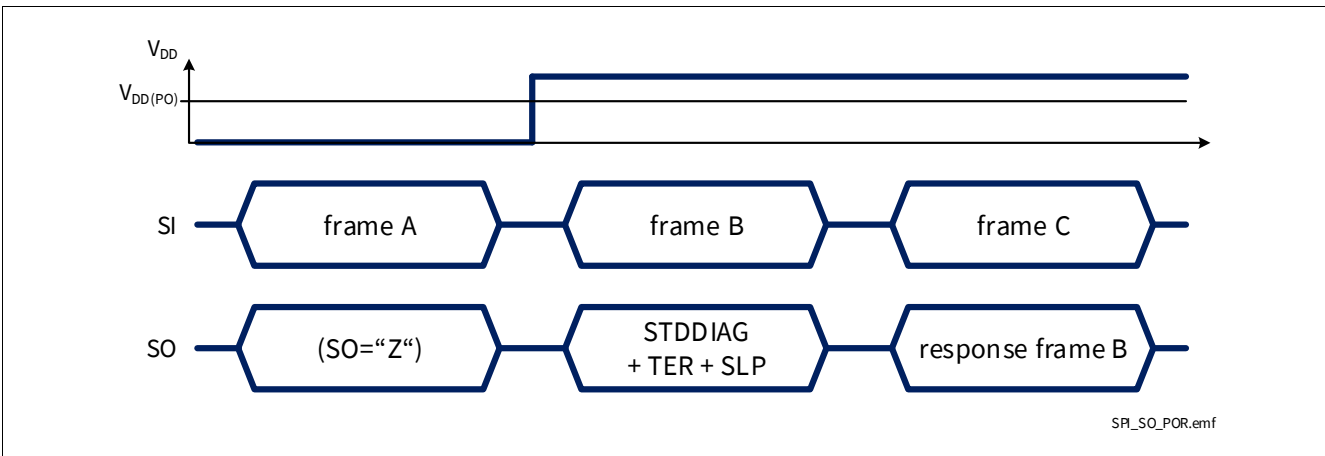

Figure 44 SPI response after coming out of Power-On reset at V_{DD}
- When BTS72220-4ESE digital supply comes out of Power-On reset condition, as shown in **Figure 44**